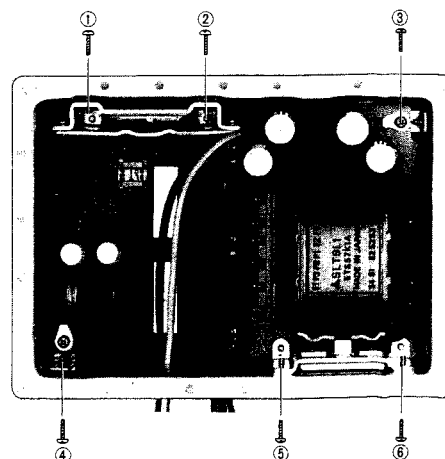

Fig. 10
4. Remove 6 setscrews (① ~ ⑥ in Fig. 10) which secure the printed circuit board.